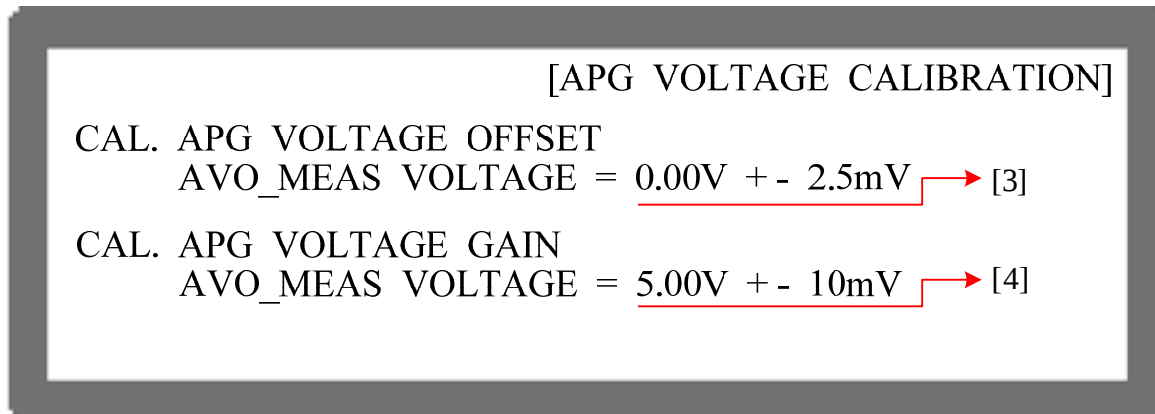

Figure 3-120
6. Press  again the cursor stops at position [3] as Figure 3-120 shows. Open the device cover to find VR402 (adjustable resistor) on the PCB of 62xxxP-xx-xx C ver.x. Make the DVM2 reading of Pin5 to be 0.00V±2.5mV by adjusting the resistance of VR402. Once the reading is adjusted correctly, press  to confirm it.
7. Press "" again the cursor stops at position [4] as Figure 3-120 shows. Open the device cover to find VR401 (adjustable resistor) on the PCB of 62xxxP-xx-xx C ver.x. Make the DVM2 reading of Pin5 to be 5.00V±10mV by adjusting the resistance of VR401. Once the reading is adjusted correctly, press "" to confirm it.